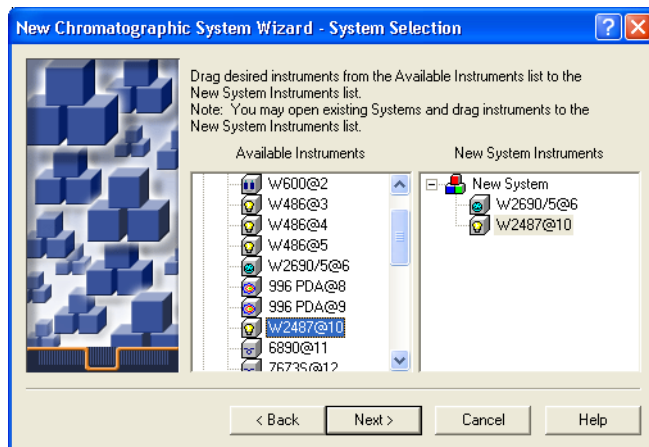

Figure 3-7 New Chromatographic System Wizard–System Selection Page
3. Select the acquisition server that is connected to the instruments in your system, then click **Next**. The System Selection page appears (Figure 3-7).